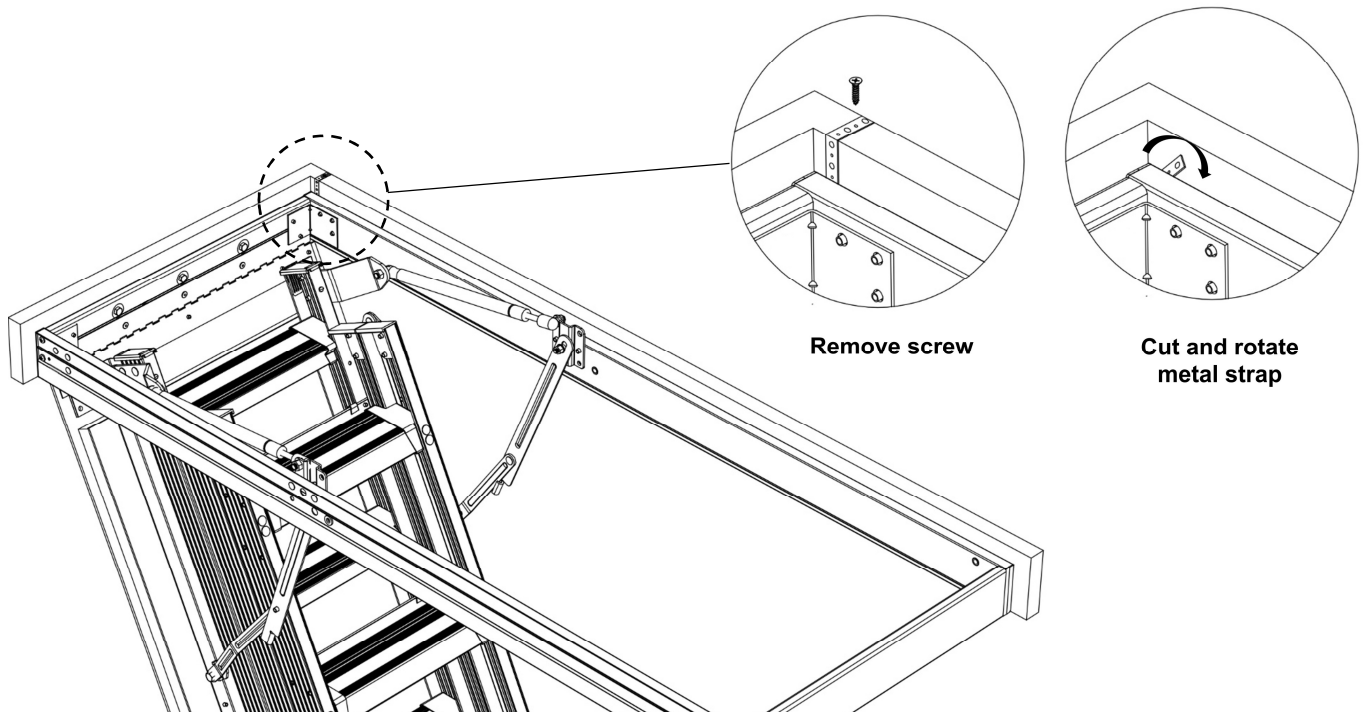

FIGURE 24 : REMOVING EXCESS METAL STRAP MATERIAL
T. Installer #2: With the aluminum attic ladder frame secured and the door open, remove the wood screws from the metal straps. Cut the metal straps as close as possible to the aluminum frame. Be careful of any sharp edges. Turn any excess strap material down between the aluminum frame and rough opening to eliminate a possible catch point. See **Figure 24**.